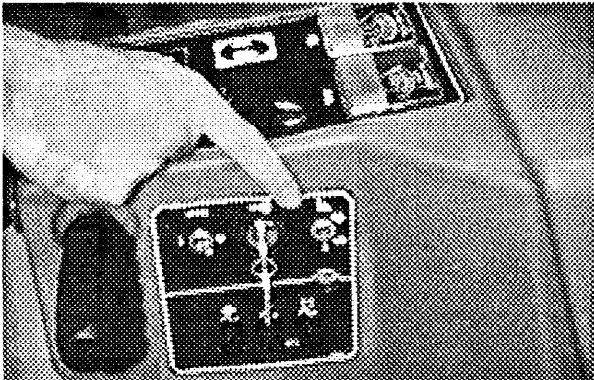

FIG. 21.
6. Select desired burnishing speed by choosing slow or fast speed. Slow speed is recommended in heavy pedestrian areas. (Figure 21)